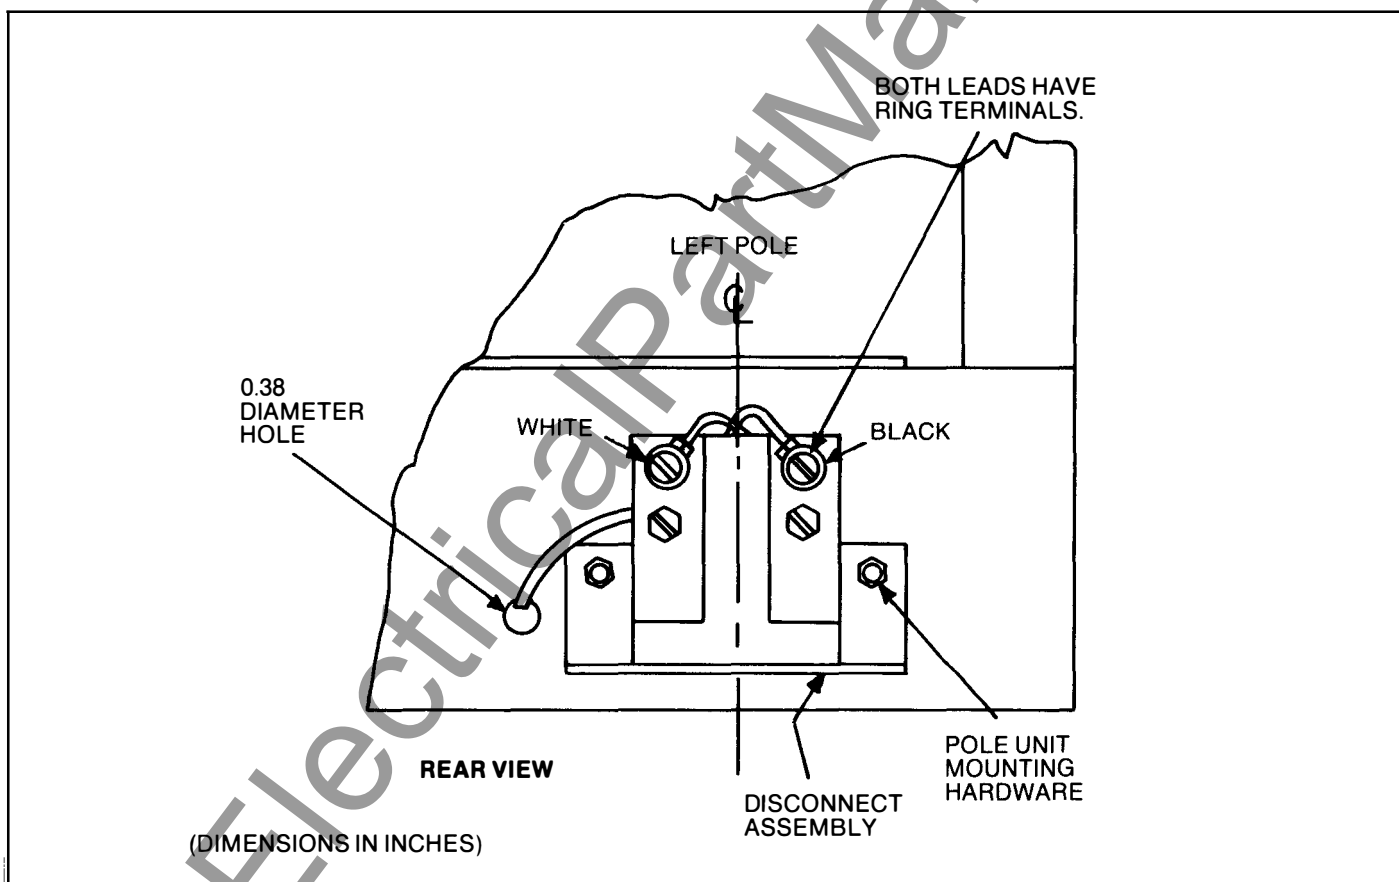

Fig. 4-1. 4th-wire neutral disconnect installed — AK/AKS-50 drawout
The 4th-wire disconnect for the AK/AKS-50 Drawout breaker mounts to the lower-back frame as shown in Fig. 4-1.
2. If the disconnect is being added, mount the disconnect assembly as shown in Fig. 4-1.